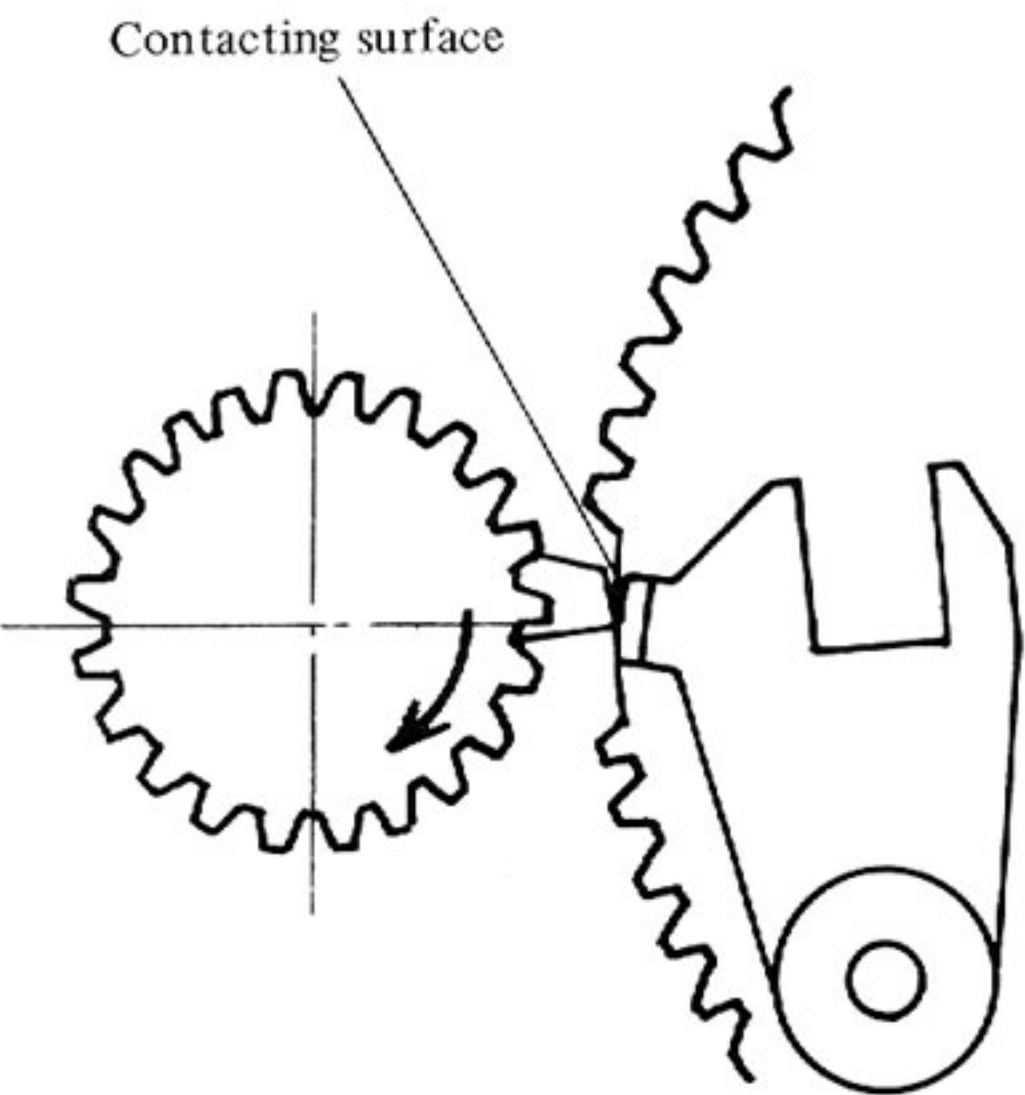

Fig. 8
- 4) As the tone arm moves in the run-out groove, the engagement pawl moves forward more than pushed back by the projection, and their relative positions are shown in Fig. 8. As the engagement pawl is pushed by the projection, it makes the gear rotate and thus the first tooth comes to mesh with the platter gear. That is, the change cycle begins.
- 7) The playing can be stopped in the way by setting the control knob to "START" position. In this case, the reject lever pushes the trip lever as shown in Fig. 8, and the change cycle begins. The same mechanical operation takes place when the control knob is set to "START" before starting the platter.